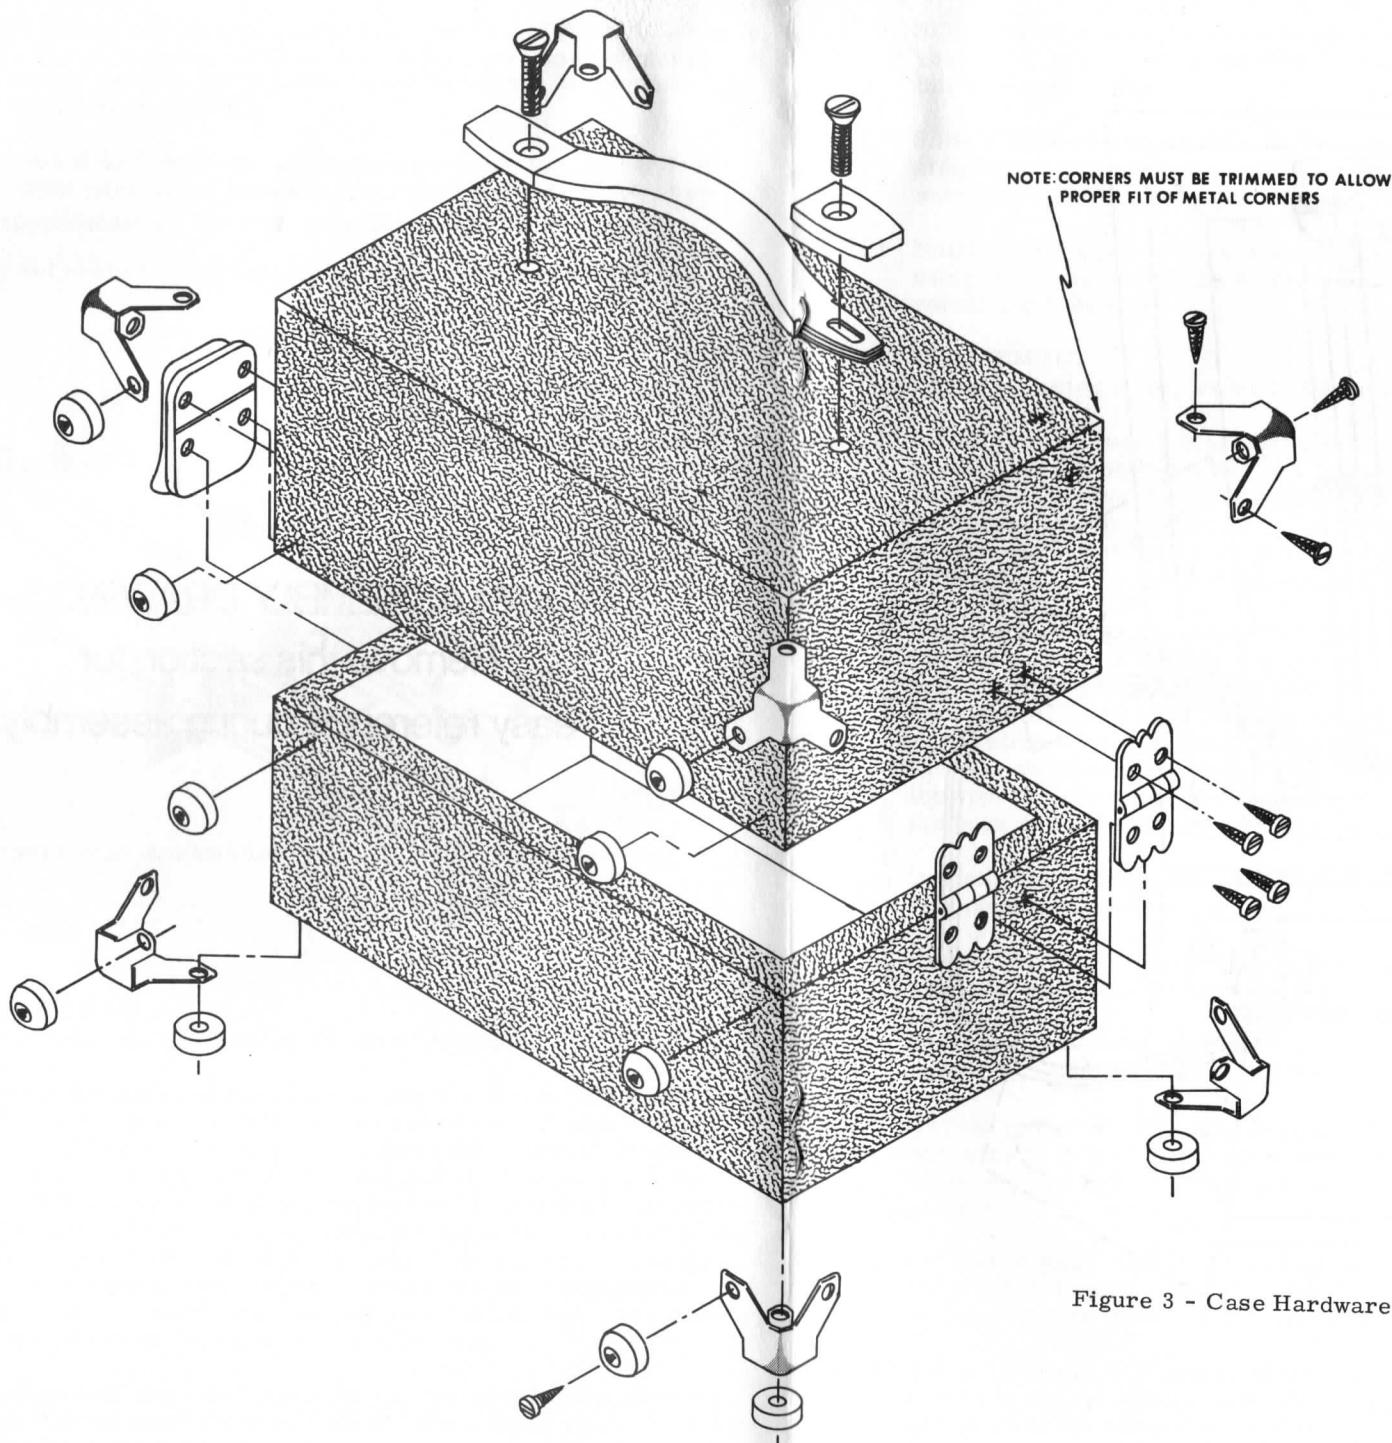

Figure 3 - Case Hardware Placement
During case assembly it may prove helpful to use a 1/16" drill or ice pick to produce pilot holes for any screws which go into the wooden case. Refer to figure 3 for proper case hardware placement.
- ( ) Prepare the wood case for mounting the metal corners by trimming the FOUR REAR corners with a razor blade or sharp knife. (See figure 3.) This will allow the metal corners to mount flush against the case.
- ( ) Using two #4 X 3/8" screws, mount the remaining two rubber feet near the front edge of the case bottom. The rubber feet should be located approximately 3/4" from each edge. (See figure 3.)
( ) Close the wing cabinets and arbitrarily designate one of the units as the top half and the other as the bottom half. On the wing cabinet which is designated as the bottom, mount four rubber feet using the #4 X 3/8" screws which have already been used to mount the metal corners to the case back. (See figure 3.)